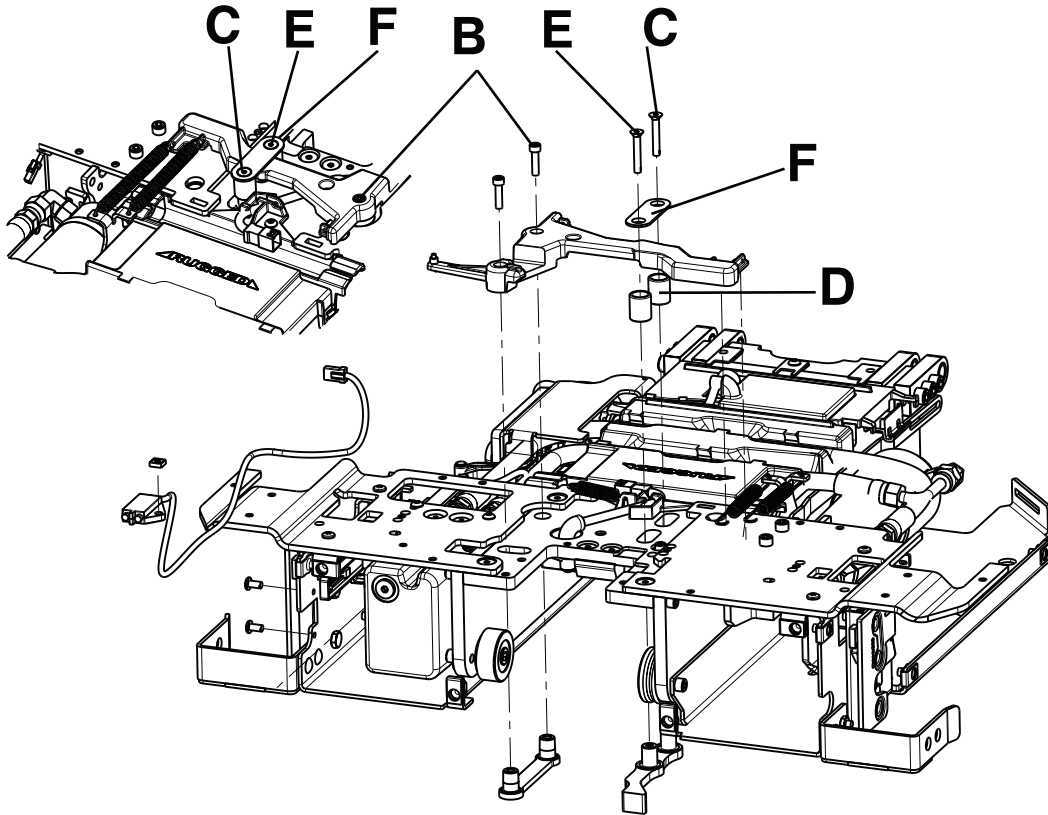

Figure 24: TPS assembly
4. Using a 5/32" hex wrench, loosen (do not remove) the socket head cap screw (B) that secures the trolley mechanism arm (Figure 24 on page 57).
5. Using 1/8" hex wrench, remove the flat head cap screw (C) that secures the link to the trolley mechanism arm and remove the trolley mechanism pivot pillar (D) (Figure 24 on page 57).
- Using a 1/8" hex wrench, loosen (do not remove) the flat head cap screw (E) that secures the front link (F) to the trolley mechanism arm and swing it out of the way (Figure 24 on page 57).